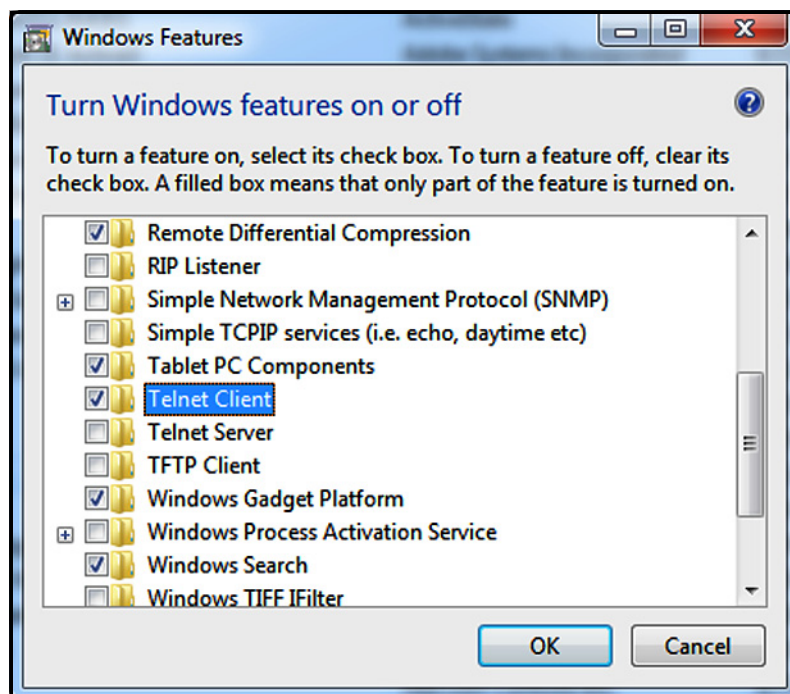

Figure 73: Windows Features Dialog Box
4. In the Windows Features dialog box, check the Telnet Client check box (see Figure 73 below).